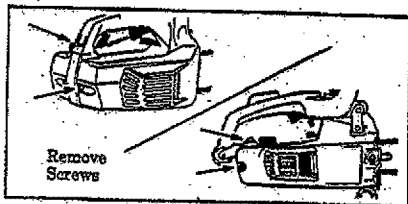

Figure 39
2. Remove the three screws on the side of the fan housing, Figure 39.
3. Remove two screws on rear of unit, Figure 39.